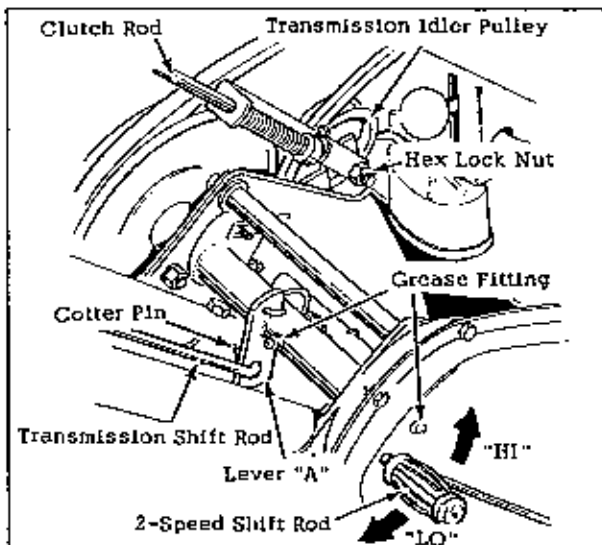

Fig. 3
3. Connect the lower end of the shift rod to lever "A" shown in Figure 3. Secure with a cotter pin.
4. Connect the lower end of the clutch rod to the idler pulley using hex lock nut as shown in Figure 3. The lock nut should be tight enough to remove side play but loose enough to allow the bracket to pivot freely.
The 26" Sno Away has two speed ranges operated by the shift rod shown in Figure 3.